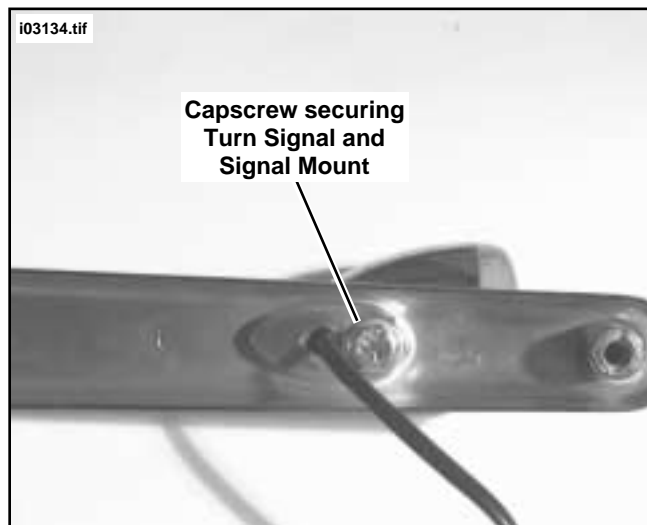

Figure 7. Remove Turn Signal and Signal Mount from Strut
10. See Figure 7. Remove turn signal and signal mount from strut by removing capscrew shown. Gently pull wiring through strut and mount. Discard mount and capscrew.